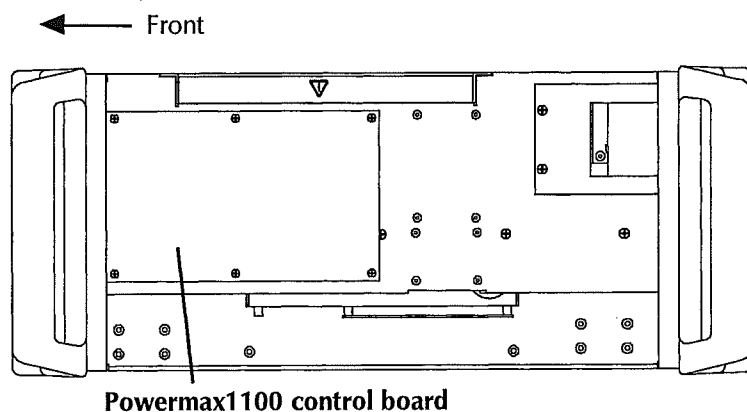

Figure 2 Top View - Powermax1100 without Cover
4. Locate the control board located at the top of the unit - Fig. 2.